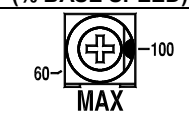

FIGURE 10
5.4 Minimum Speed Trimpot (MIN): The MIN Trimpot sets the minimum speed of the motor when the Main Speed Potentiometer is set fully counterclockwise. The MIN Trimpot is factory set to 0% of base motor speed. To increase the minimum speed, rotate the MIN Trimpot clockwise. To decrease the minimum speed, rotate the MIN Trimpot counterclockwise. See Figure 10 on page 3.